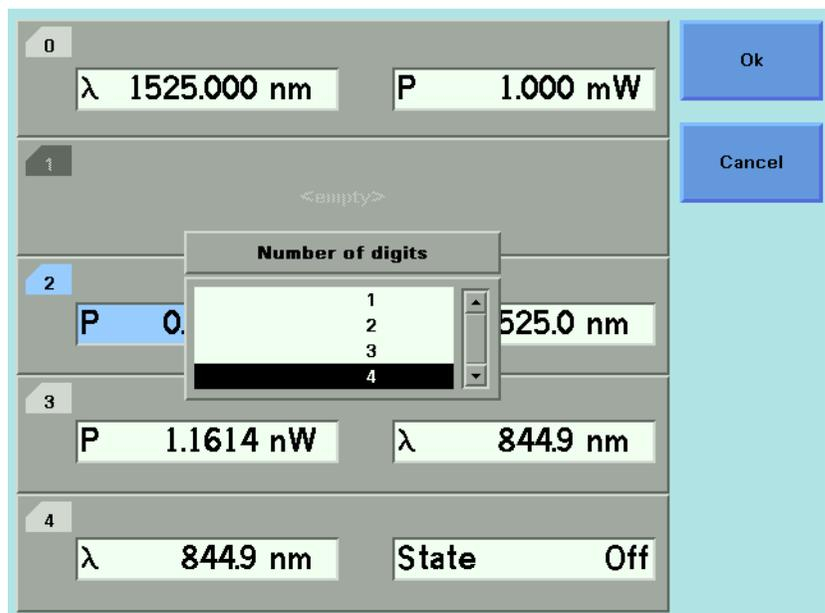

Figure 41 The Number of Digits Menu
- 2 Move to  $\langle \text{Number of Digits} \rangle$  option and press *Enter*. You will see the screen in Figure 41 .